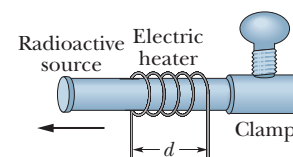

Figure 18-31 Problem 20.
•20 GO In a certain experiment, a small radioactive source must move at selected, extremely slow speeds. This motion is accomplished by fastening the source to one end of an aluminum rod and heating the central section of the rod in a controlled way. If the effective heated section of the rod in Fig. 18-31 has length  $d = 2.00\text{ cm}$ , at what constant rate must the temperature of the rod be changed if the source is to move at a constant speed of  $100\text{ nm/s}$ ?